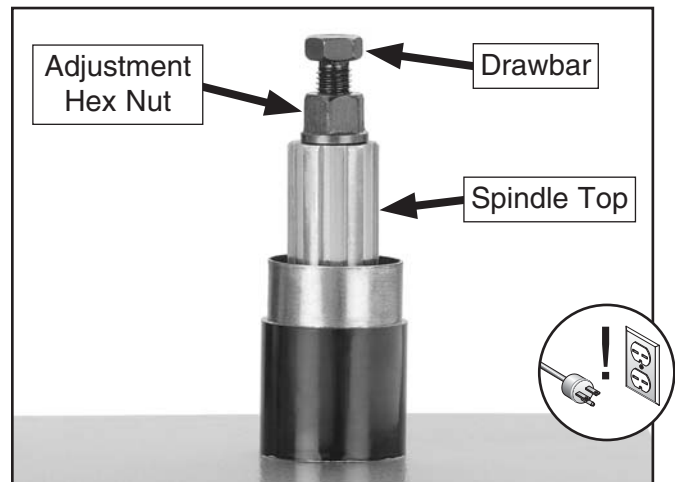

Figure 24. Drawbar inserted through the spindle top.
3. Insert the tool into the spindle, insert the drawbar through the spindle top, as shown in **Figure 24**, then thread the drawbar into the tool.